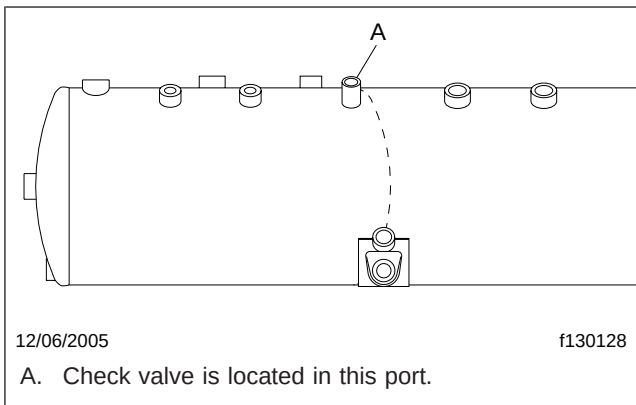
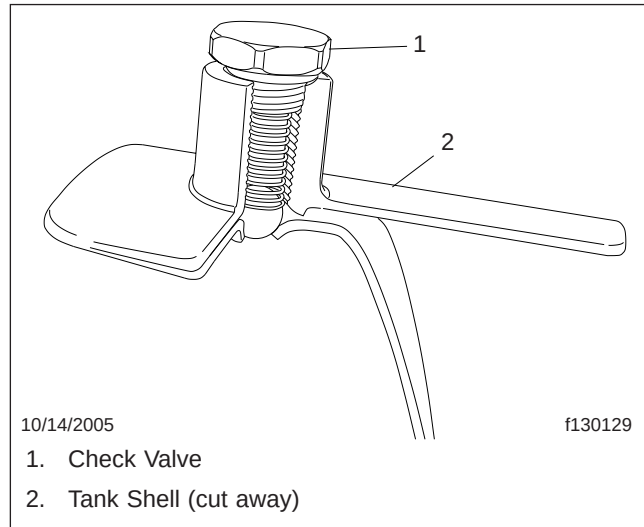

Fig. 3, Check Valve Location
Fig. 4, Cutaway View of the Check Valve Installation
3. Remove the check valve assembly from the top port on the reservoir. See Fig. 3 and Fig. 4.